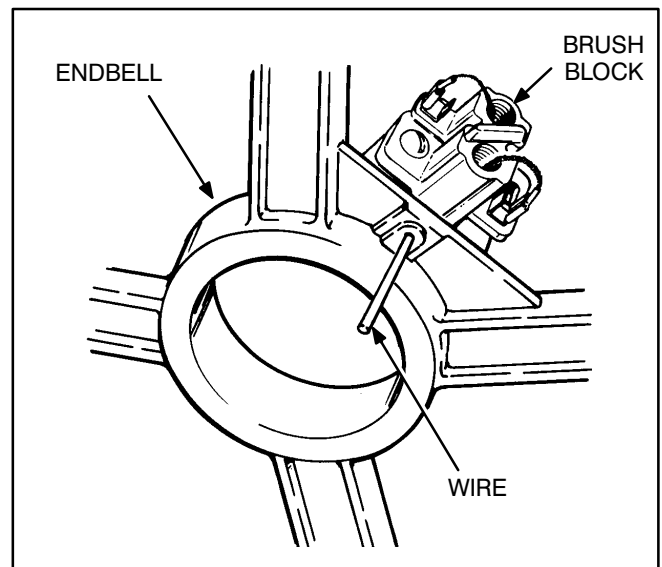

FIGURE 7-3. BRUSH BLOCK
10. Disconnect the wire harness leads from the brush block and pull each brush outward from the holder while inserting a wire into the small hole in the endbell at the bottom of the brush block (Figure 7-3). Release the brushes and check that each brush is being held off the slip rings by the wire. Remove the wires from the magneto assembly. Loosen the two screws holding the brush block to the endbell.
4. Prepare the endbell for installation. Lubricate the O-ring on the bearing. Verify that the brushes are held inside the holder with a piece of wire and that the brush block is loose. See Figure 7-3. Install the endbell onto the rotor bearing and secure to the stator housing with the endbell mounting screws.